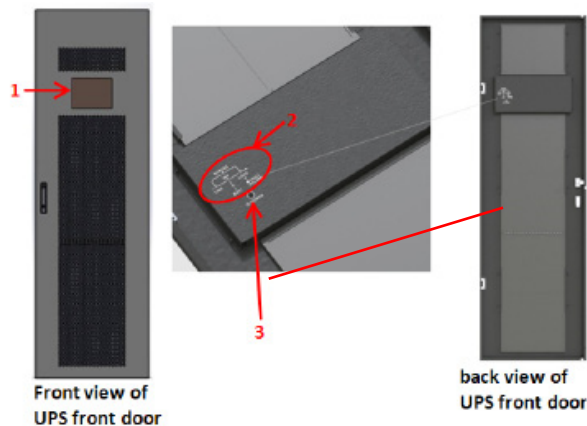

Figure 4-1 Control Panel
The control panel and display allows user control and monitoring of all measured parameters, UPS and battery status and alarms. The control panel and display are divided into four functional areas: (1) LCD display, (2) LED indications, (3) Control key, (4) Audio Alarm, as shown in Figure 4-1.